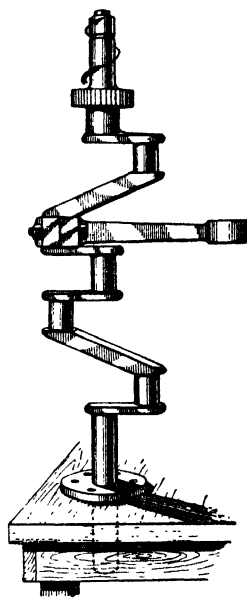

Fig. 12. Connecting Rod in Vertical Position for Adjusting Bearings
a flange with a number of holes drilled through. Place the flange end of the shaft on the bench, as shown in Fig. 12, and mark on the bench with chalk the places under the holes. Drill holes through the bench where the chalk marks appear, and bolt the shaft to the bench, using as many bolts as you have holes. The bolts should be long enough to run through the bench and have 1 inch left over.
**Cleaning and Fitting Connecting-Rod Bearings.** With the crankshaft in the position shown in Fig. 12, clean the shaft thoroughly with gasoline. Emery cloth should be used to rub down any cuts which appear.